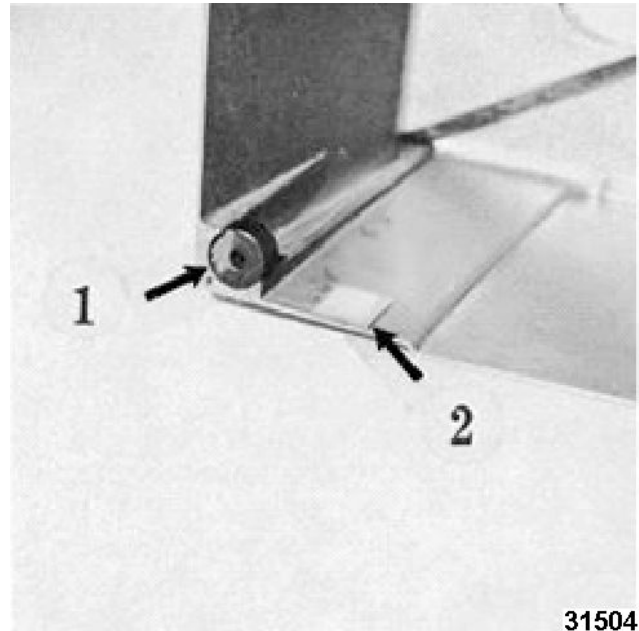

Fig. 4
- B. Replacement of the magnet in the motor housing (1, Fig. 4). If the magnet has been broken or removed, press a new magnet into the recess in the motor housing using LOCTITE "Studlock".
- C. Motor housing rattling against gear case. Rattle may be eliminated by renewing the strips of rubber tape (2, Fig. 4) on the inside of the motor housing where they contact the gear case. Adjustment of the split studs may also be needed (see step 3).